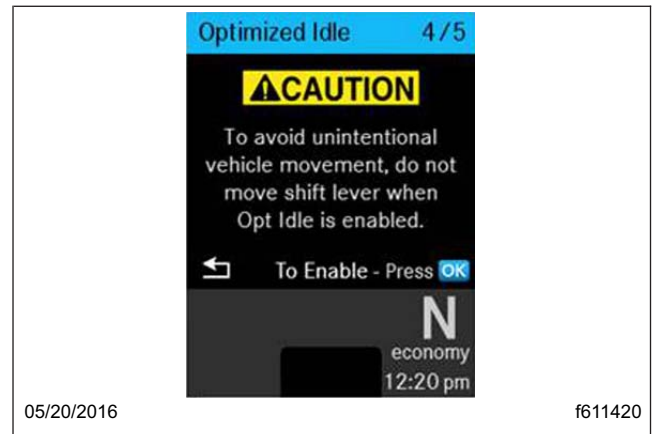

Fig. 10.2, Optimized Idle Start Screen
5. Navigate to the Optimized Idle screen on the driver display. See Fig. 10.2.